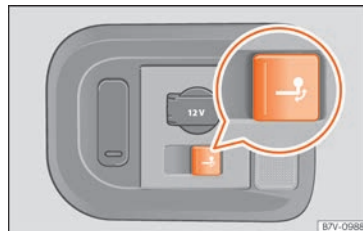

Fig. 279 On the right side of the luggage compartment: button for unlocking the tow hook.
- Pull the »» Fig. 279 button briefly. The tow hook unlocks electrically and automatically turns outwards. The button's control lamp flashes.
- Pull the »» Fig. 279 button briefly. The tow hook unlocks electrically.
- If the warning light on the button »» Fig. 279 → flashes, this means that the tow hook has not been attached properly or is damaged »» ⚠.
- If the warning lamp »» Fig. 279 → remains on with the rear lid open, the tow hook is correctly in place both when extracted and when covered.
- Never press the »» Fig. 279 button when there is a trailer hooked to the vehicle or when a carrier system or other accessories are mounted on the tow hook.